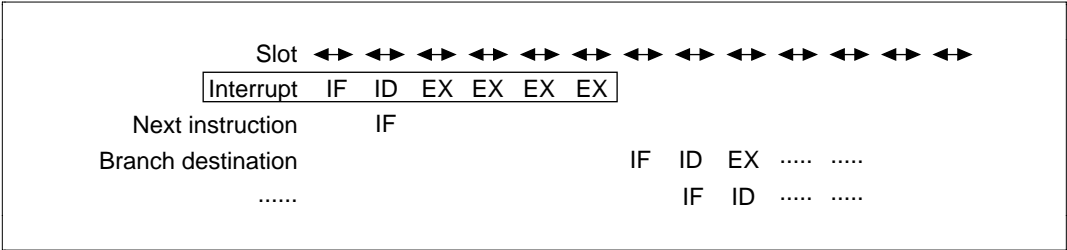

Figure 10-64 Interrupt Exception Processing Pipeline
The interrupt is received during the ID stage of the instruction and everything after the ID stage is replaced by the interrupt exception processing sequence. The pipeline has six stages: IF, ID, EX, EX, EX, and EX (figure 10-64). Interrupt exception processing is not a delayed branch. In interrupt exception processing, an overrun fetch (IF) occurs. In branch destination instructions, the IF starts from the slot following the final EX in the interrupt exception processing.